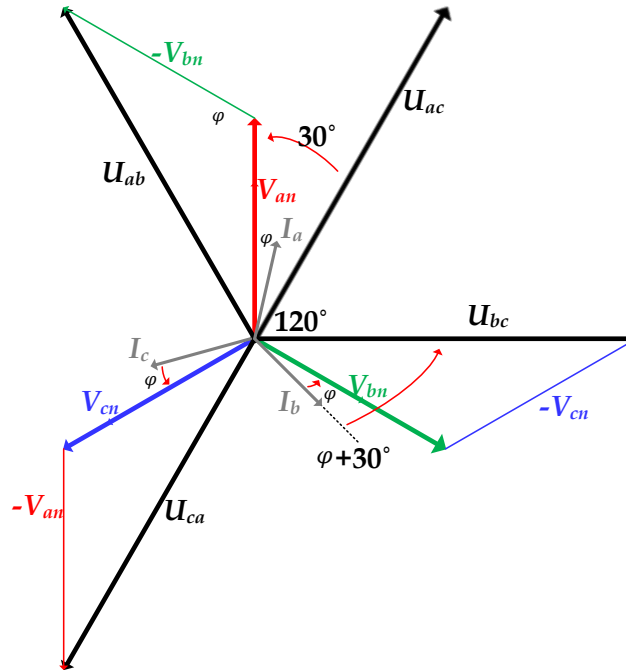

Fig. 10 Voltages and currents phasor diagram
Suppose that this system is inductive load, from Fig. 10 we have:
2. The line voltage U_{ac} **lags** phase voltage V_{an} by 30° , so the phase difference between the line voltage and the phase current is $30^\circ - \varphi$, see the phasor diagram in Fig. 10
3. The line voltage U_{bc} **leads** phase voltage V_{bn} by 30° , so the phase difference between the line voltages and the phase currents is $30^\circ + \varphi$, see the phasor diagram in Fig.10